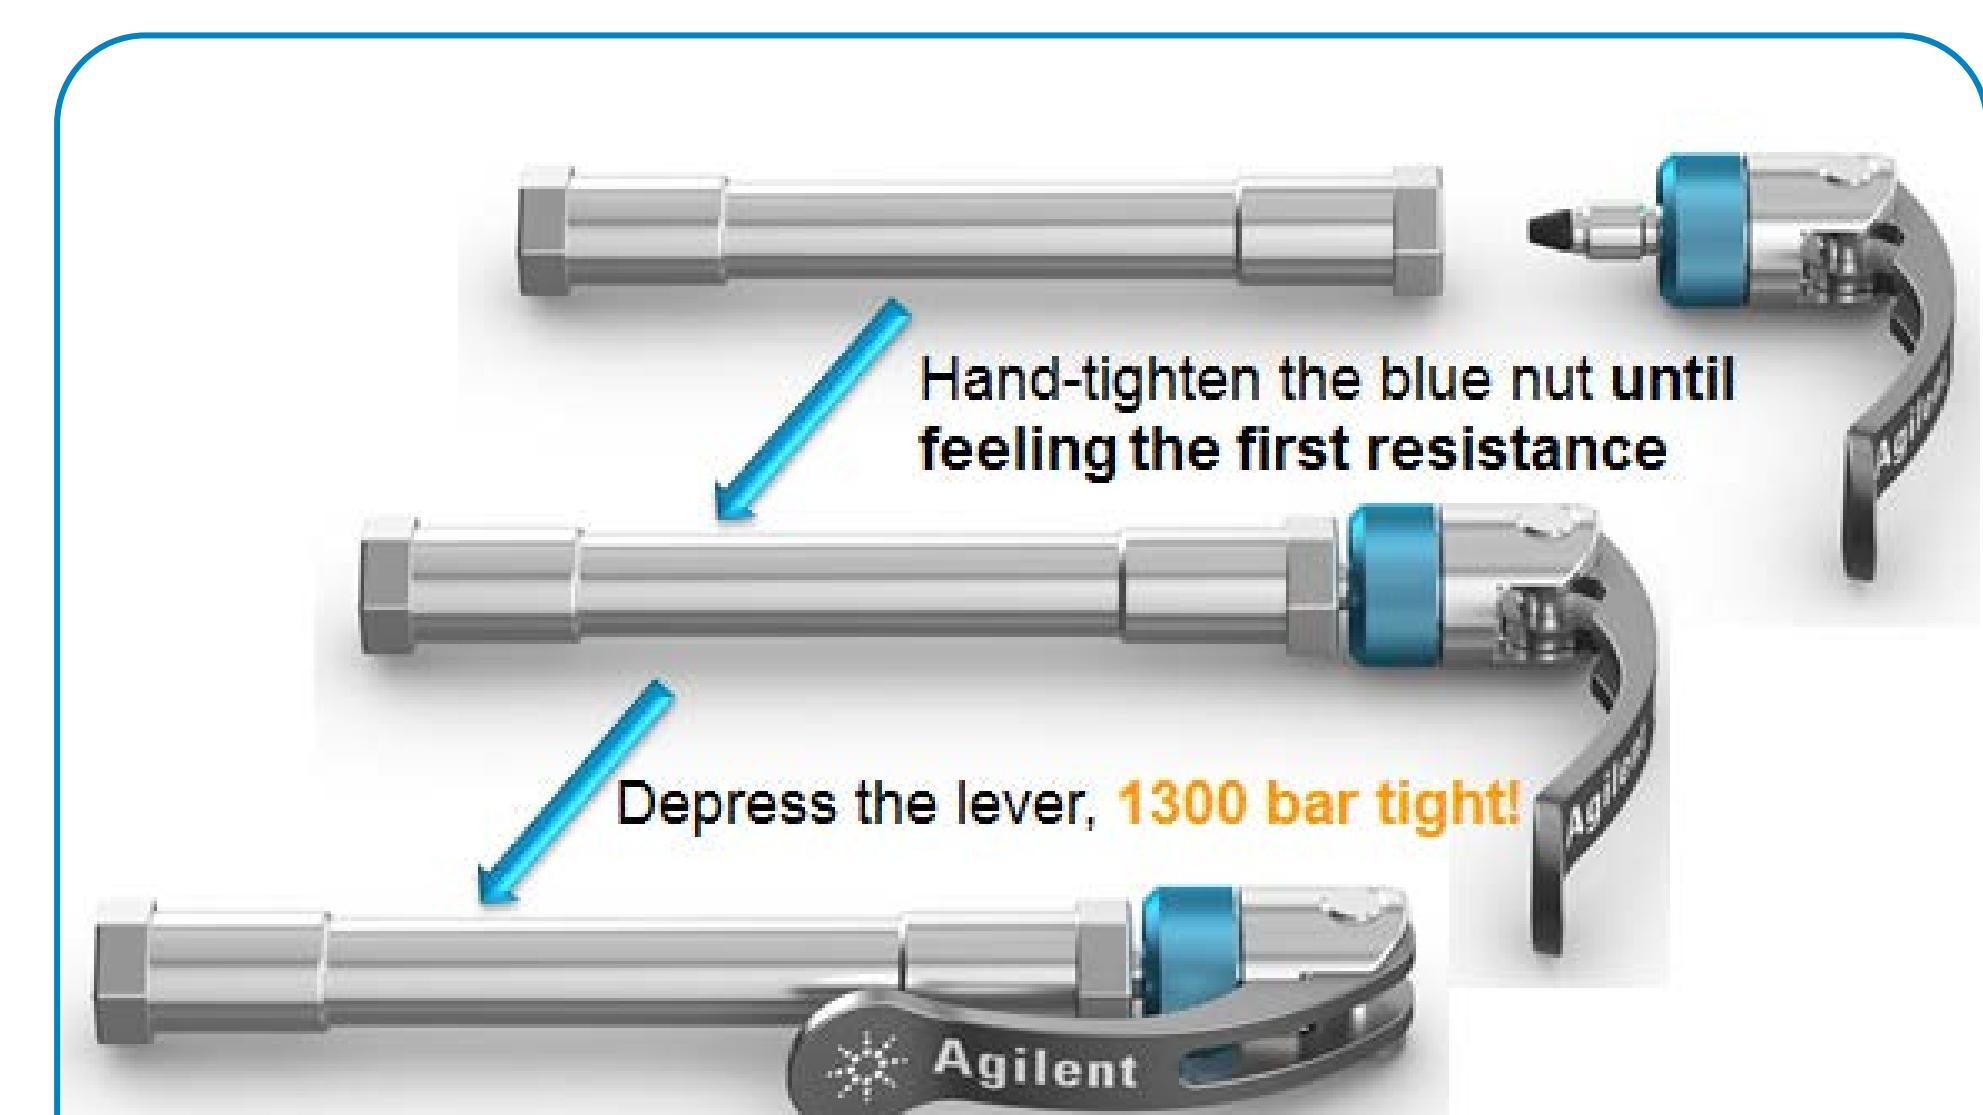

Figure 5. Connecting a column with Agilent A-Line Quick Connect Fitting.
- **Little force** is required to tighten the fitting to 1300 bar (18,850 psi) without the need for any tools. All that is needed is to **hand-tighten** the nut until feeling the first resistance and subsequently depress the lever (Figure 5)